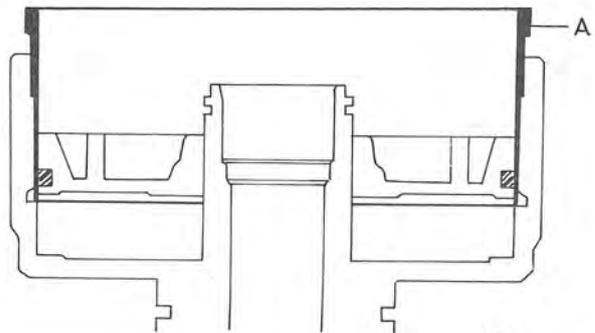

Fig. 4-107. Installing piston for rear clutch
12. Fit the sealing rings for the piston. Use fitting ring SVO 2534 and fit the piston in the clutch case, see Fig. 4-107.